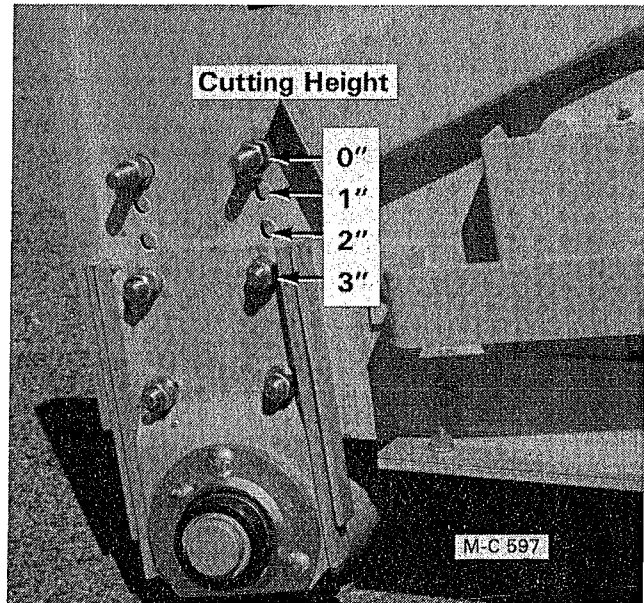

Figure 5 - Gauge Roller - Below S/N 49650
3. When the bearing brackets are assembled as shown in Figure 5, the gauge roller can be adjusted for cutting heights of 0 to 3". When the two top holes in the bearing bracket and the two top holes in the Mower side plate are used, the cutting height is 0.
4. Moving the bearing bracket down to the second hole will provide a 1" cutting height, the third hole - 2" and the fourth hole - 3" as shown in Figure 5.